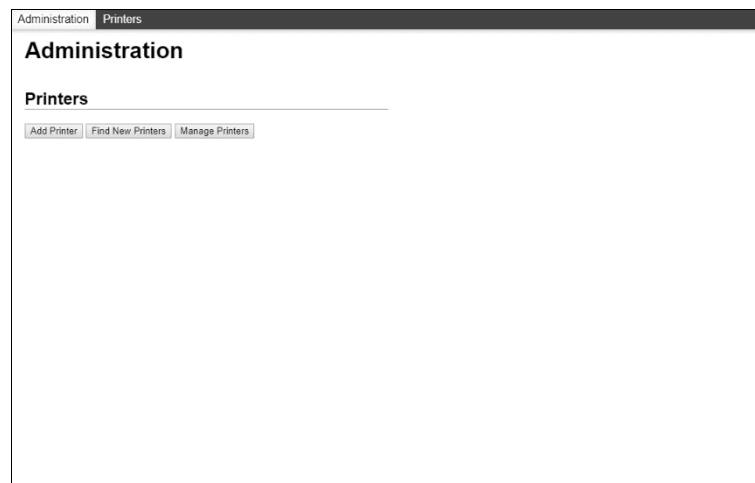

Fig. 119 - Administration panel
- *Administration* (Fig. 119)
Press the Add Printer button in the Administration Panel shown in Fig. 119: after a while, the panel Add Printer appears. In this panel, there are three sections: